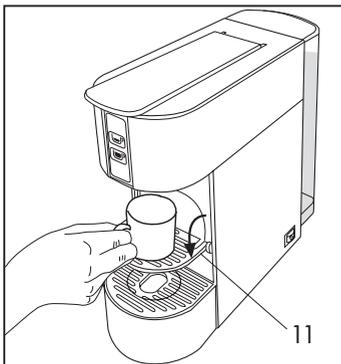

Fig.7
open the support (11) to prepare espresso coffee correctly and to use small cups (Fig. 7).